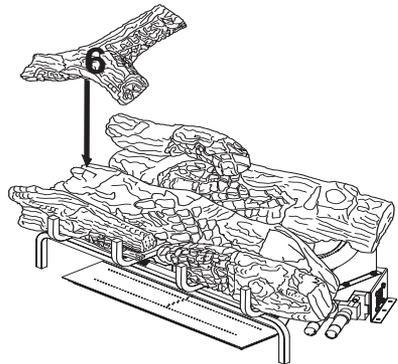

Figure 40 - Installing Log # 6
- Place the left top front log (#6) on the top of the middle log and the left top back log. Match the rectangular projection on top of the middle log with the rectangular hole on the bottom of the left top front log. The left top front log will rest on the flat part of the left top back log. See Figure 40.